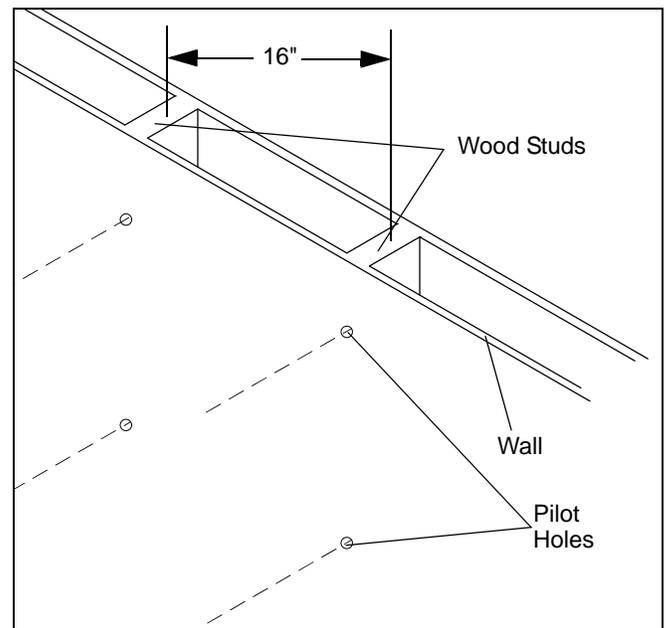

Figure 1
7. Drill two pilot holes using a 7/32" drill bit where the mounting holes were marked for anchoring the top bracket. (See Figure 1)
8. Install two 5/16" x 2-1/2" lag bolts (50) and two 5/16" flat washers (60), through CH-SPNR Top Bracket and into upper pilot holes.